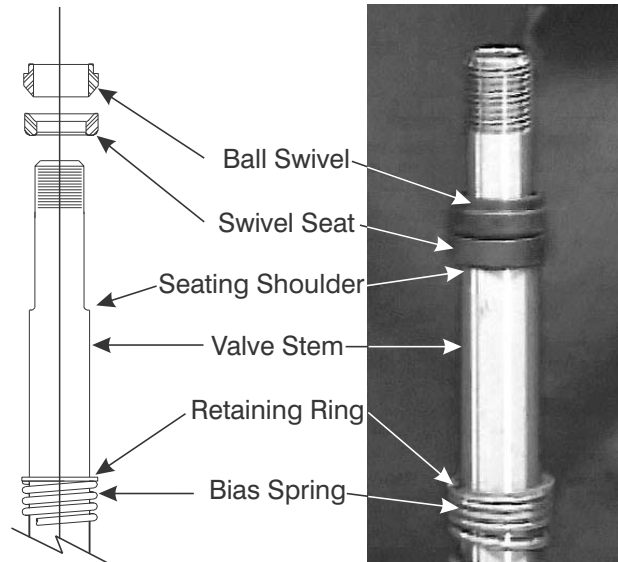

Figure 9-18. Install Lower Swivel Seat and Ball Swivel Half.
5. Refer to Figure 9-18 and lightly lubricate the Valve Stem (11) between the threads and shoulder seat.
6. Lightly lubricate the I.D. of the the Ball Swivel (6) and Swivel Seat (5).
7. Refer to Figure 9-18, and place the bottom Swivel Seat (5) and the lower half of Ball Swivel (6) onto the Valve Stem (11).